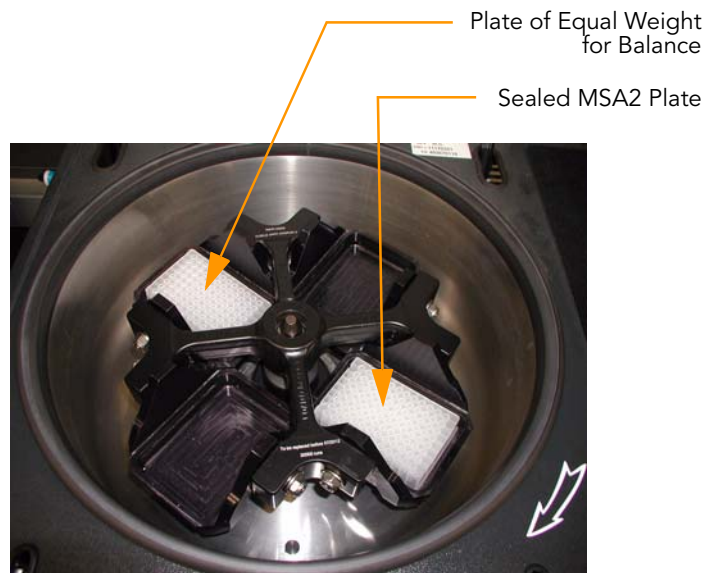

Figure 103 Balancing MSA2 Plate in Centrifuge
13. Place the sealed MSA2 plate in the centrifuge opposite another plate of equal weight (Figure 103).